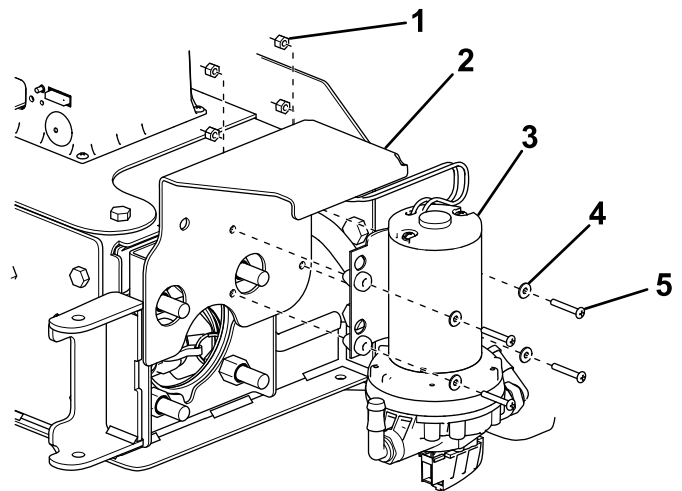

Figure 27
6. Secure the pump to the pump bracket using 4 bolts (#10 x 1-1/4 inches), washers, and nylon nuts (Figure 27).